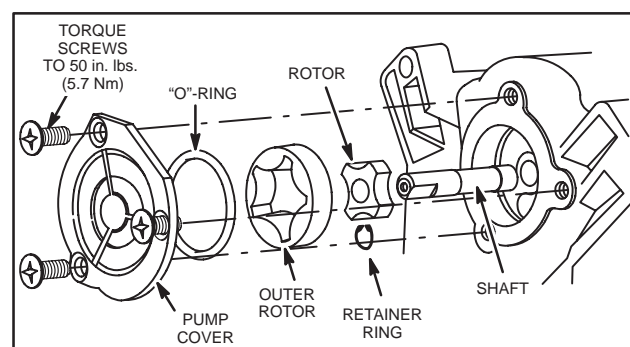

Fig. 34 – Remove Oil Pump
2. Remove rotor and shaft assembly and outer rotor, Fig. 34.